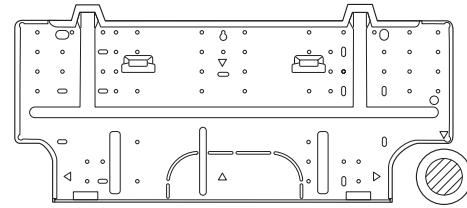

Fig. 2-197
- (1) Attach the rear panel to the wall with the 8 screws provided. (Fig. 2-197)